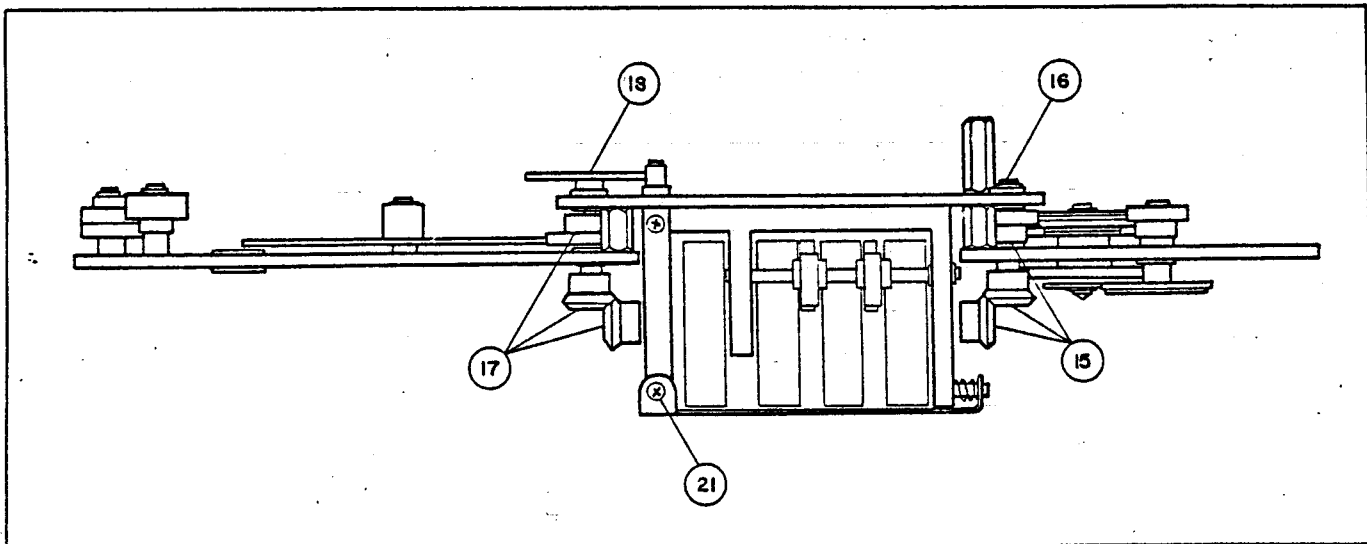

Figure 3-7. R-F and I-F Tuner Assembly, Front Plate, Top View
- a. Loosen six setscrews (item 15, figure 3-7).
- b. Remove shaft (item 16, figure 3-7).
- c. Loosen six setscrews (item 17, figure 3-7).
- d. Remove shaft of cam (item 18, figure 3-7 and 3-9).
- r. The counter gears (item 24) should rotate freely on shaft (item 23) after completion of steps a through j.
**3-17. REPLACEMENT OF MEGACYCLES FREQUENCY INDICATOR.** Refer to figures 3-7, 3-8, and 3-9.